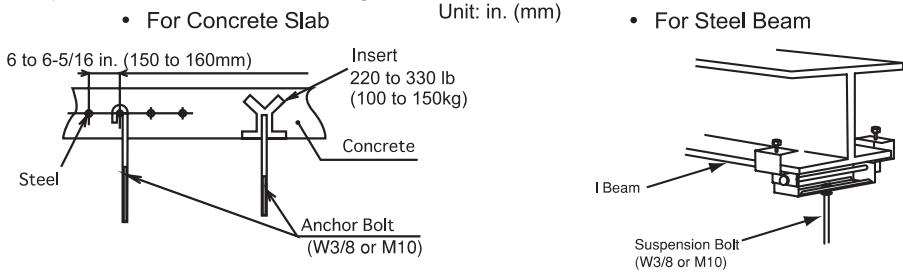

Fig.3.4 Mounting Suspension Bolts
- (3) Check to ensure that the ceiling is horizontally level, otherwise drainage can not flow.
- (4) Strengthen the opening parts of the false ceiling.
- (5) Mount suspension bolts, as shown in Fig. 3.4.